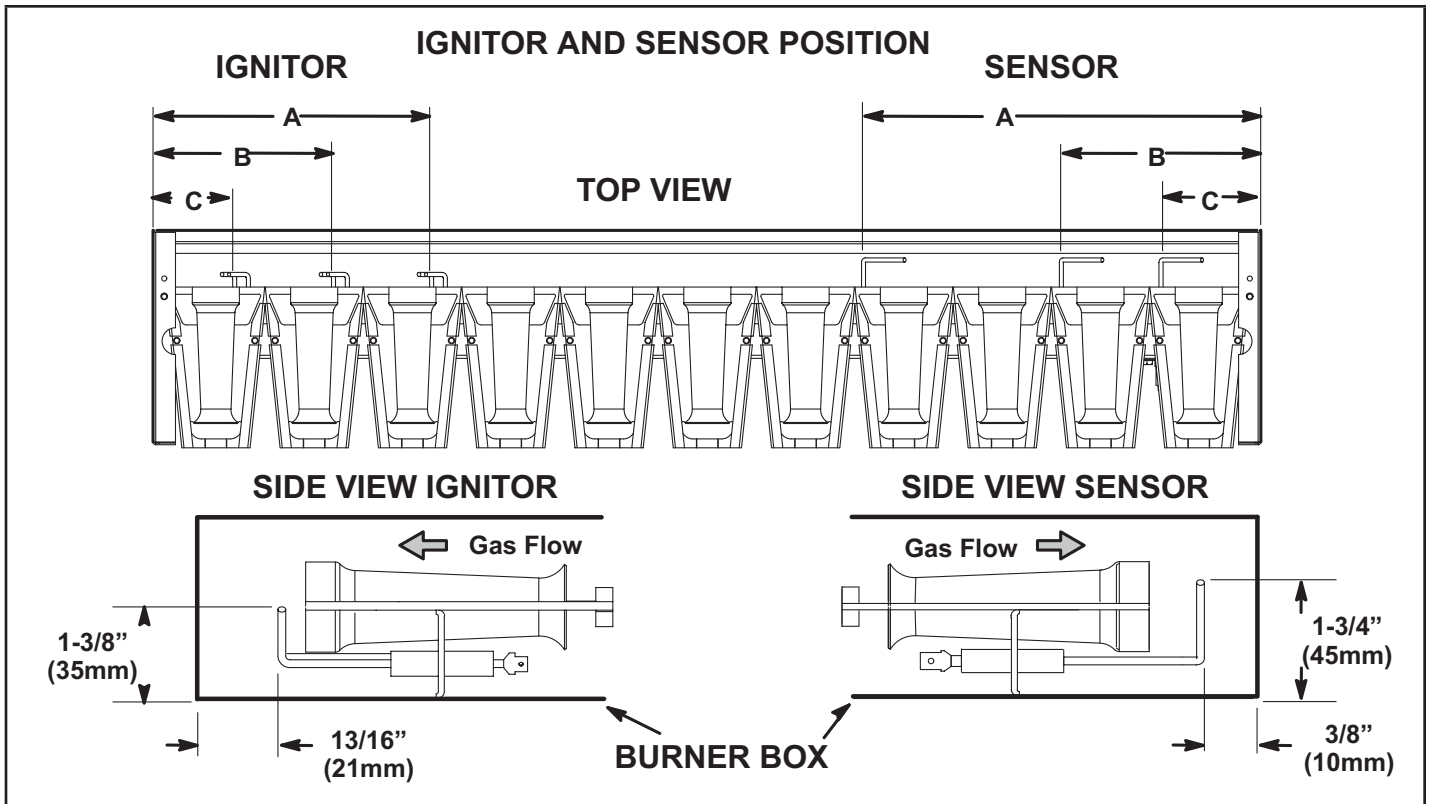

FIGURE 40
- 5 - Check the alignment of the ignitor and the sensor as shown in FIGURE 40 and TABLE 17.